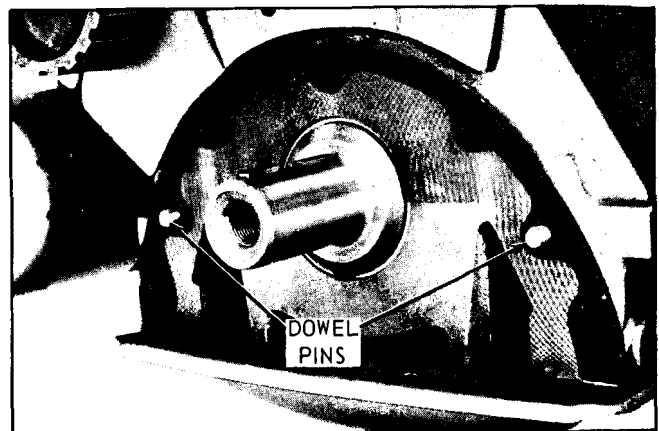

Fig. 6-35 Crankcase Front Cover Gasket and Dowel Pins
7. Using new gasket installed over dowels (Fig. 6-35) and if necessary, new seal, reverse removal procedures tightening oil pan and crankcase cover bolts to 12 lb. ft.